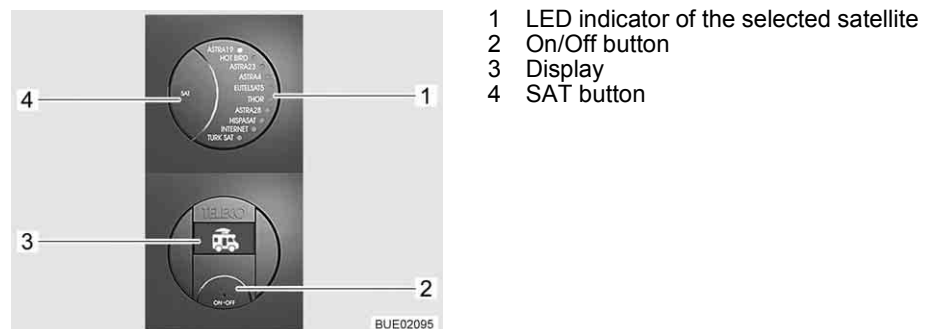

Fig. 25 Operating panel (TeleSat)
- Press the On/Off button (Fig. 25,2). The LED indicator of the selected satellite (Fig. 25,1) and the background lighting of the buttons are lit. The symbol of the vehicle with retracted antenna appears on the display (Fig. 25,3).
- Press the On/Off button (Fig. 25,2) again. The system has been switched on. If the antenna had been retracted, it will now extend to operating position. If the LED of the desired satellite (Fig. 25,1) is already flashing, wait a few seconds. The antenna automatically aligns with this satellite (the last satellite position is saved after switching off). When the unit has found the satellite, the LED (Fig. 25,1) is lit permanently and "SAT OK" is shown on the display (Fig. 25,3).
- Press the SAT button (Fig. 25,4) repeatedly until the LED (Fig. 25,1) indicates the desired satellite. The antenna automatically aligns with this satellite.
- When the unit has found the satellite, the LED (Fig. 25,1) is lit permanently and "SAT OK" is shown on the display (Fig. 25,3).
- Press the On/Off button (Fig. 25,2). The LED indicator of the selected satellite (Fig. 25,1) and the background lighting of the buttons are lit. The currently selected satellite is shown on the display (Fig. 25,3).
- Press the On/Off button (Fig. 25,2) again. The antenna retracts. When the antenna has been fully retracted, the symbol of the vehicle with retracted antenna is shown on the display. The system changes to the standby mode after a few seconds.